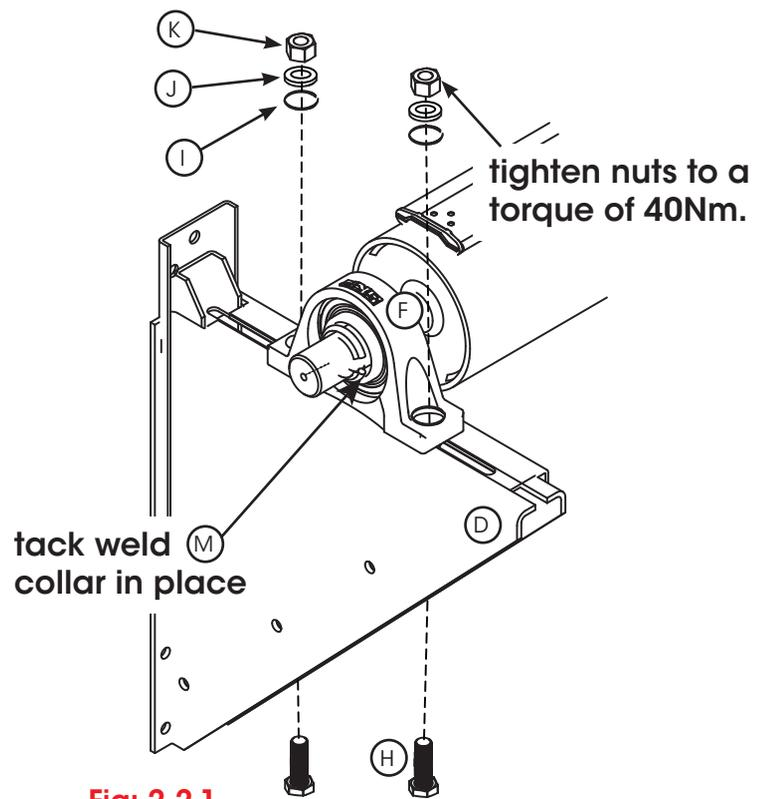

Fig: 2.2.1
- Carefully lift the drum up and over the brackets (D) using suitable lifting equipment - to avoid damaging the drum.
- Before lowering onto the brackets slide the bearing (F) and drive unit onto the ends, make sure they are correctly orientated.
- Position onto the brackets as per fig 2.2.1 and 2.2.2 using measurement E from the dimension table, slide the axle through and fit shaft collars (M). When satisfied the shaft collars can be tack welded in place.
- Secure bearing and drive unit in place with Hex Head Bolts (H), spring washers (L), flat washers (K) and M22 nuts (I) as shown. Tighten the nuts on the bearings evenly to a torque of 40Nm or 30 ft.lb.